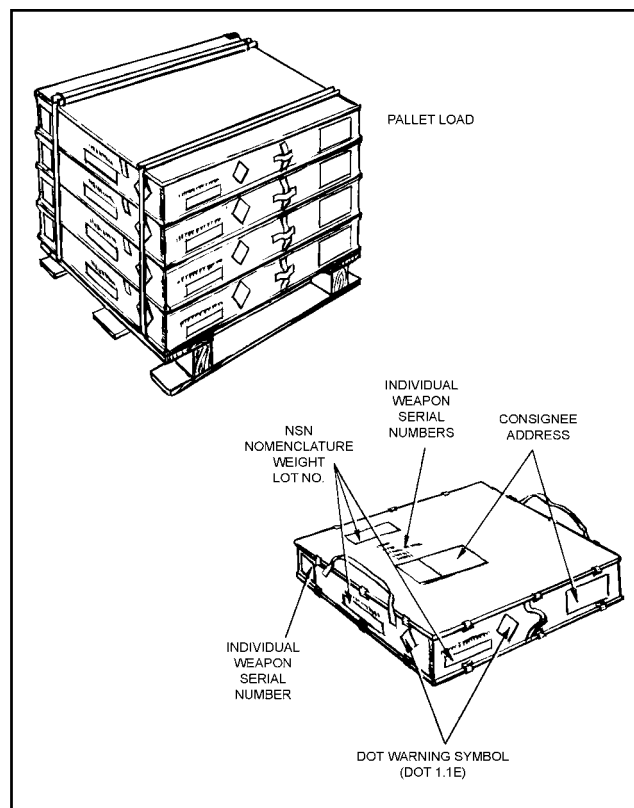

Figure 3-4. Ammunition packaging and markings.
- b. **Packaging.** Five M136 AT4s, each wrapped in a plastic barrier bag, are packed together in a wooden container. The containers are too heavy to stack more than four deep on the pallets (Figure 3-4).